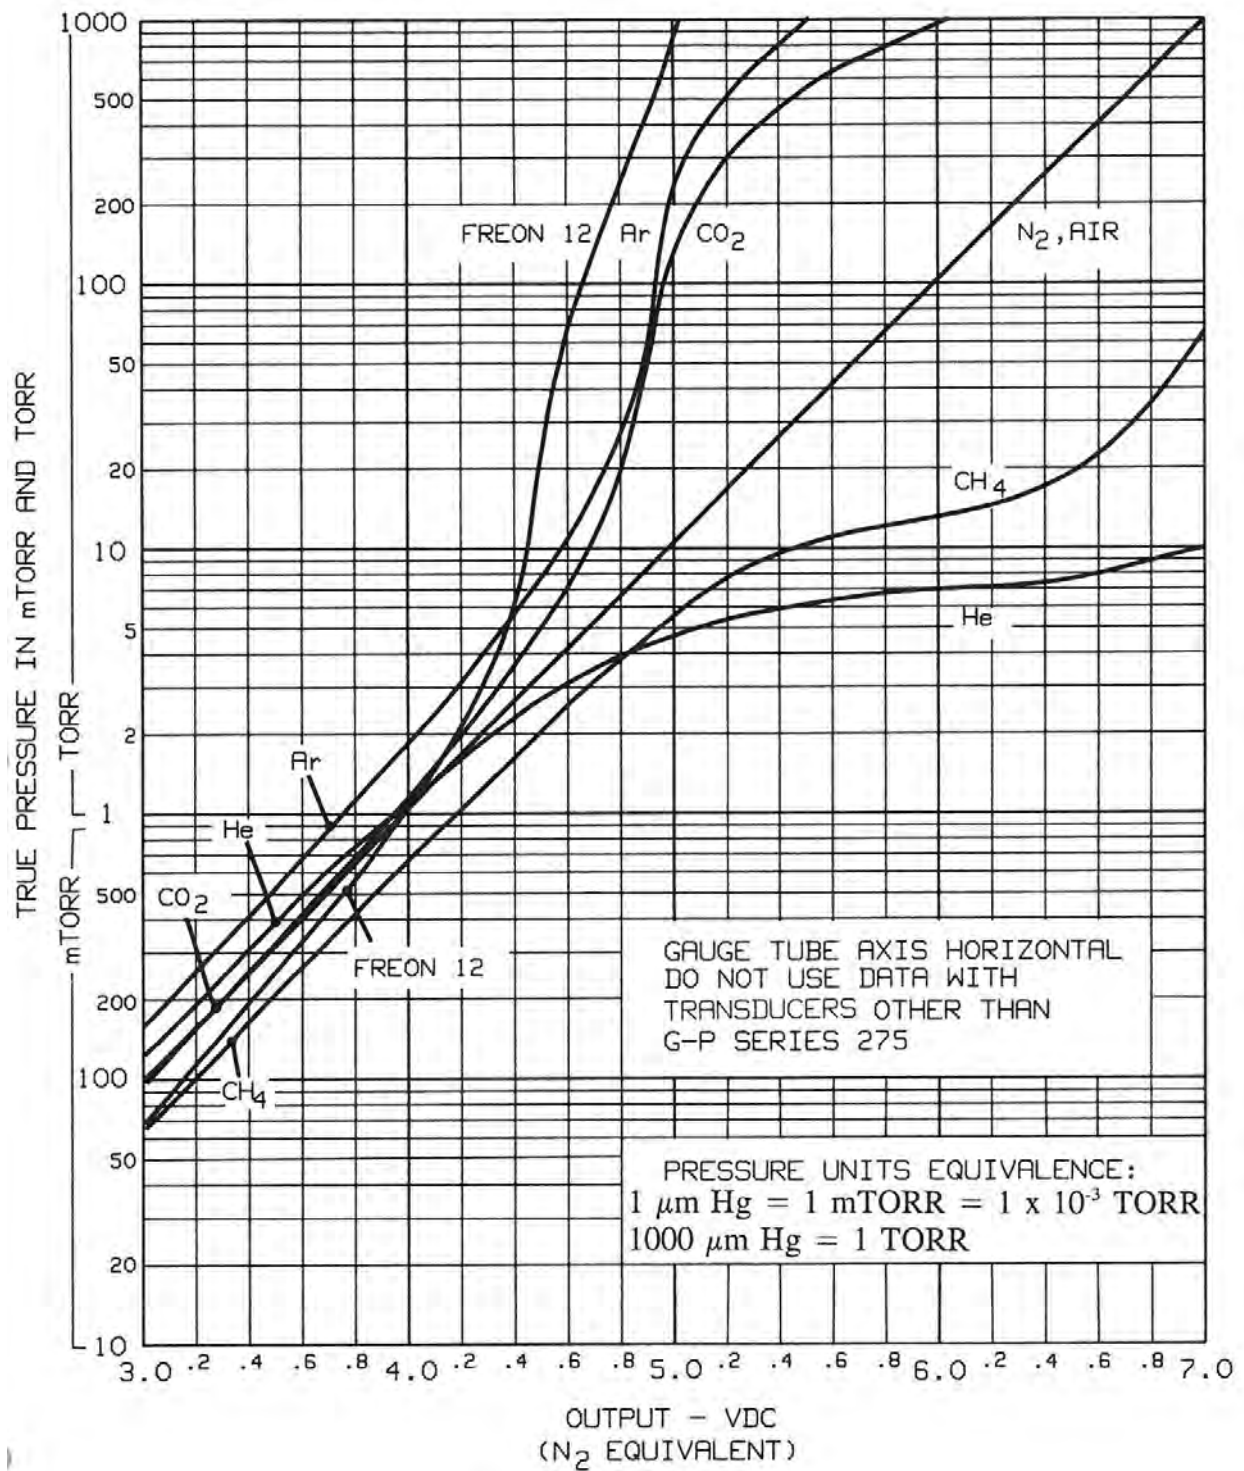

Figure 2-4 True Pressure vs. Indicated Pressure for Commonly used Gases: 10^{-1} to 1000 Torr
- Assume a certain system will withstand an internal pressure of 2000 Torr or 38.7 psia. For safety you wish to limit the maximum internal pressure to 760 Torr during backfilling. Assume you wish to measure the pressure of argon. On Figure 2-4 locate 760 Torr on the left hand scale, travel to the right to the intersection with the argon (Ar) curve and then down to an indicated pressure of 24 Torr (N₂ equivalent). Thus, in this hypothetical situation the maximum safe indicated pressure for argon is 24 Torr.
- Assume you wish to determine the true pressure of argon in a system when the Convectron Gauge is indicating 10 Torr. On Figure 2-4, read up from 10 Torr (N₂ equivalent) indicated pressure to the argon curve and then horizontally to the left to a true pressure of 250 Torr. Thus 250 Torr argon pressure produces an indication of 10 Torr, (N₂ equivalent).
- Assume you wish to set a process control set point at a true pressure of 20 Torr of CO₂. On Figure 2-4, locate 20 Torr on the true pressure scale, travel horizontally to the right to the CO₂ curve and then down to an indicated pressure of 6 Torr (N₂ equivalent). Thus, the correct process control setting for 20 Torr of CO₂ is 6 Torr (N₂ equivalent).
- Assume you wish to obtain a helium pressure of 100 Torr in the system. On Figure 2-4, locate 100 Torr on the left hand scale, travel horizontally to the right to attempt to intersect the He curve. Because the intersection is off scale it is apparent that this true pressure measurement requirement for helium exceeds the capability of the instrument.